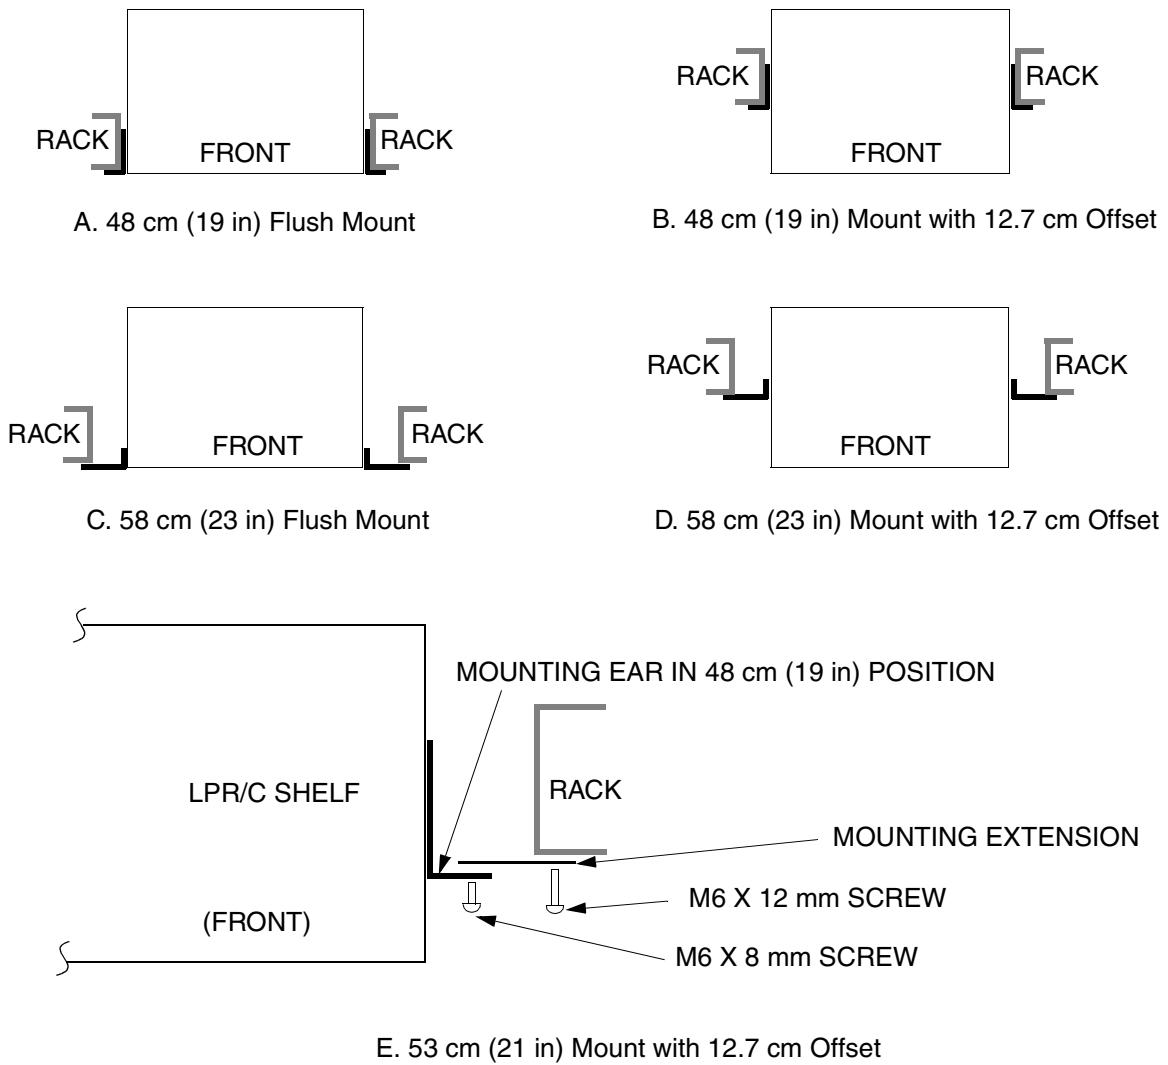

Figure 18. DCD-LPR/C Shelf Mounting Ears (Top View)
3.14 The DCD-LPR/C can be mounted in 48 cm (19 in) or 58 cm (23 in) racks, as well as ETSI 53 cm (21 in) racks, depending on the position of the mounting ears. For mounting the DCD-LPR/C Shelf into a rack, refer to Figure 18, and use the following instructions. The mounting ears can be positioned for flush mount or offset 12.7 cm for either rack.
1. Position the mounting ears for mounting the receiver in a rack (Figure 18), and attach the mounting extensions as shown. Repeat for the other side of the shelf.